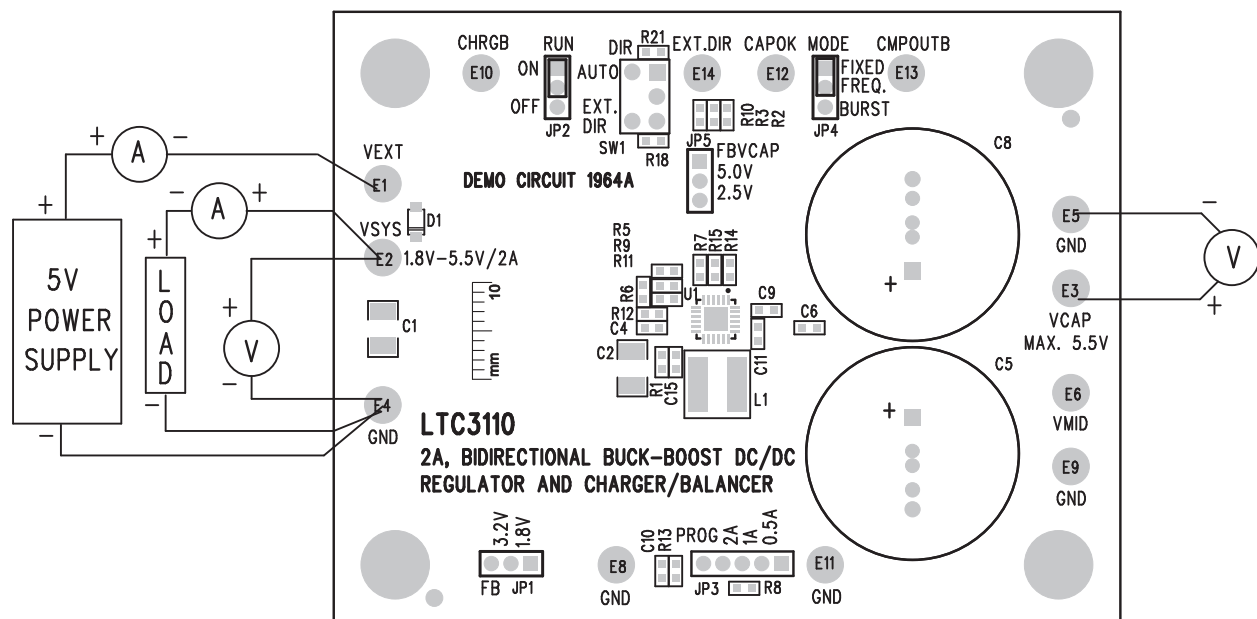

Figure 1. Proper Measurement Equipment Setup
Demonstration circuit 1964A is easy to set up to evaluate the performance of the LTC3110 bidirectional regulator. Refer to Figure 1 for proper measurement equipment setup and follow the procedure below. 5V power supply should be rated minimum 2A of output current.
4. With power off, connect the input power supply to VEXT, GND load to VSYS, GND as shown on Figure 1.